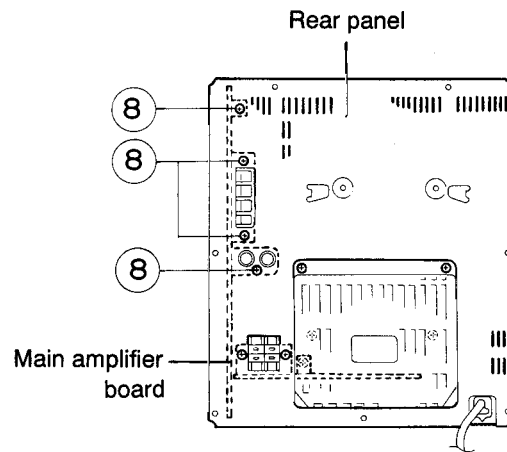

Fig.5-15
5. Remove the four screws ⑧ fastening the main amplifier board to the rear panel.(See Fig. 5-15)